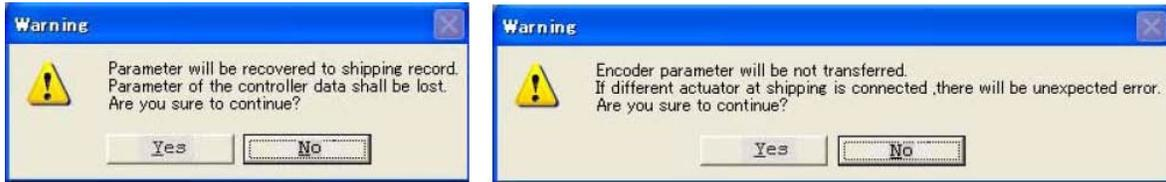

Fig. 8.24 Warning Dialog
- (3) Selecting the displayed menu Parameter of Shipping displayed in (2) will display a dialog in Fig. 8.24. If you have no problem, click Yes.